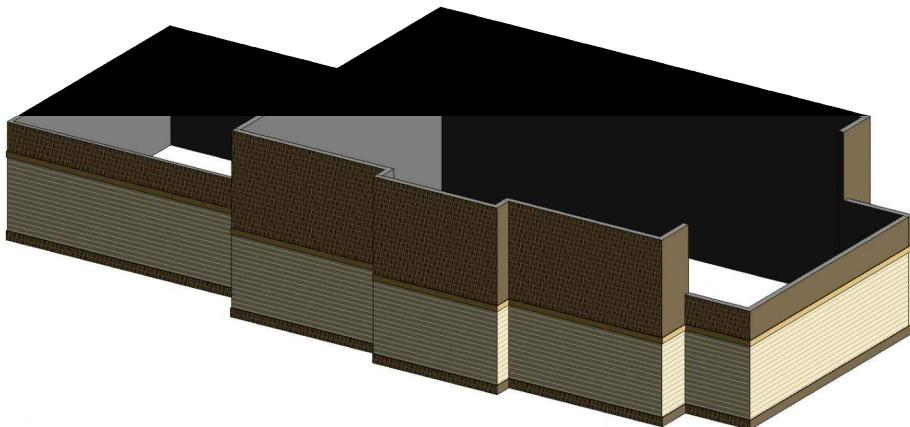

FIGURE 5-2.18 Completed exercise
42. Make the same height adjustment to the three exterior walls at the Eastern most (i.e. right) portion of the living room (Figure 5-2.18).